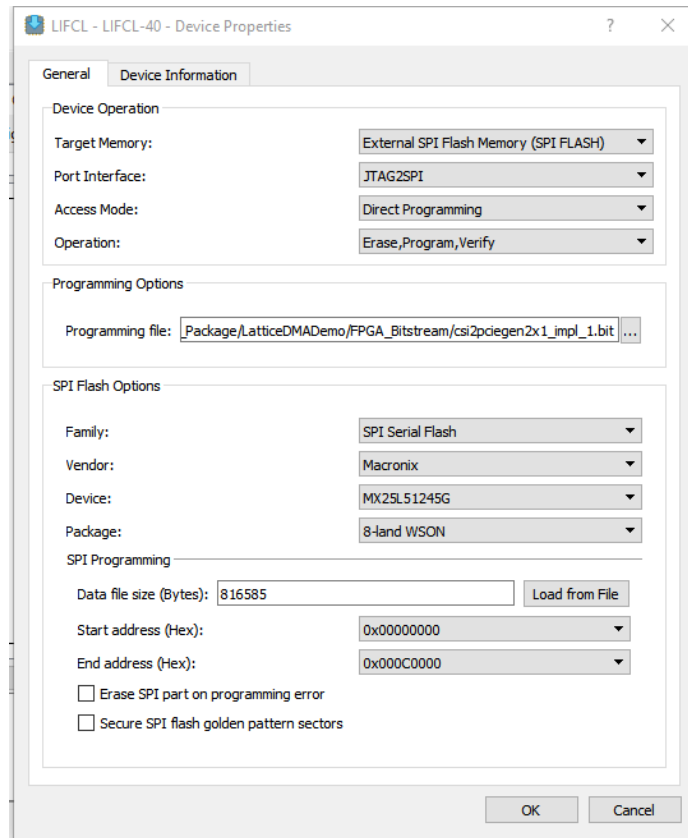

Figure 5.3. Device Properties Dialog
- The Device Properties dialog pops up. Changed the settings as shown in Figure 5.3. Click OK.